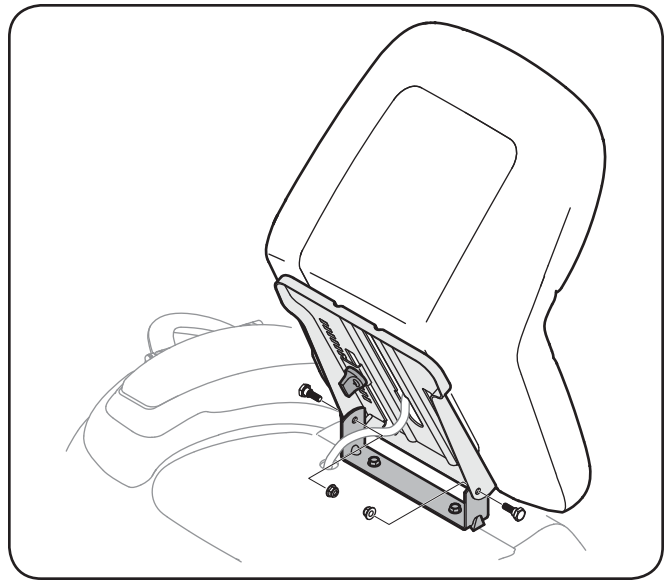

Figure 3-4
4. To adjust the position of the seat, loosen the adjustment knob (see Fig. 3-4) on the bottom of the seat until the adjustment tab clears the adjustment cut-outs. Slide the seat forward or backward as desired. Retighten the adjustment knob.